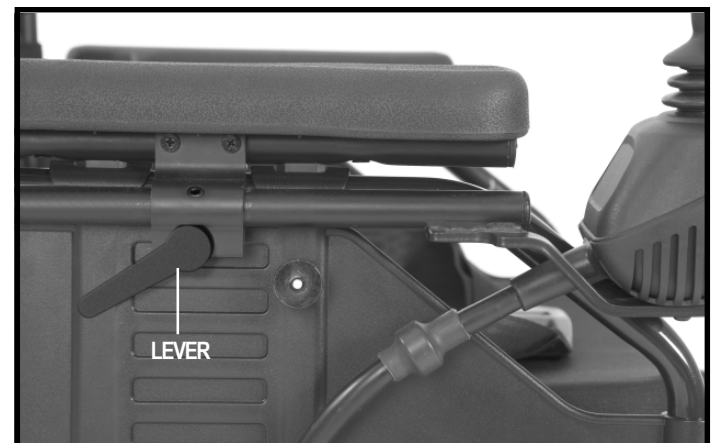

Figure 26. Controller Position Adjustment
1. Loosen the lever. See figure 26.